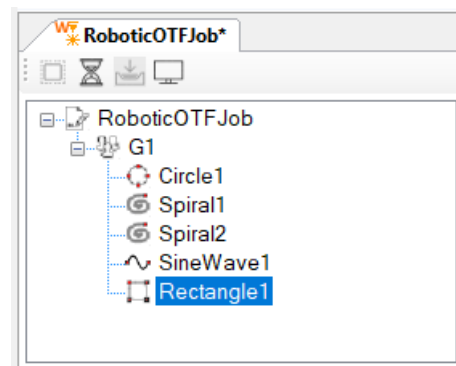

Figure 253: Selecting the Job Name for Dryrun
- In the desired On-The-Fly job, select the name of the job in the Job Tree. See Figure 253 (below).